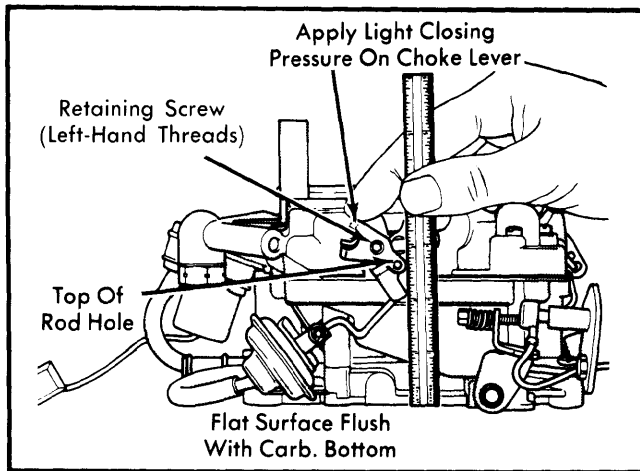

Fig. 6 Adjusting Choke Control Lever
1) Place carburetor on a flat surface. Make sure bottom of throttle body is flush with flat surface and that flat surface extends out under choke control lever. See Fig. 6.